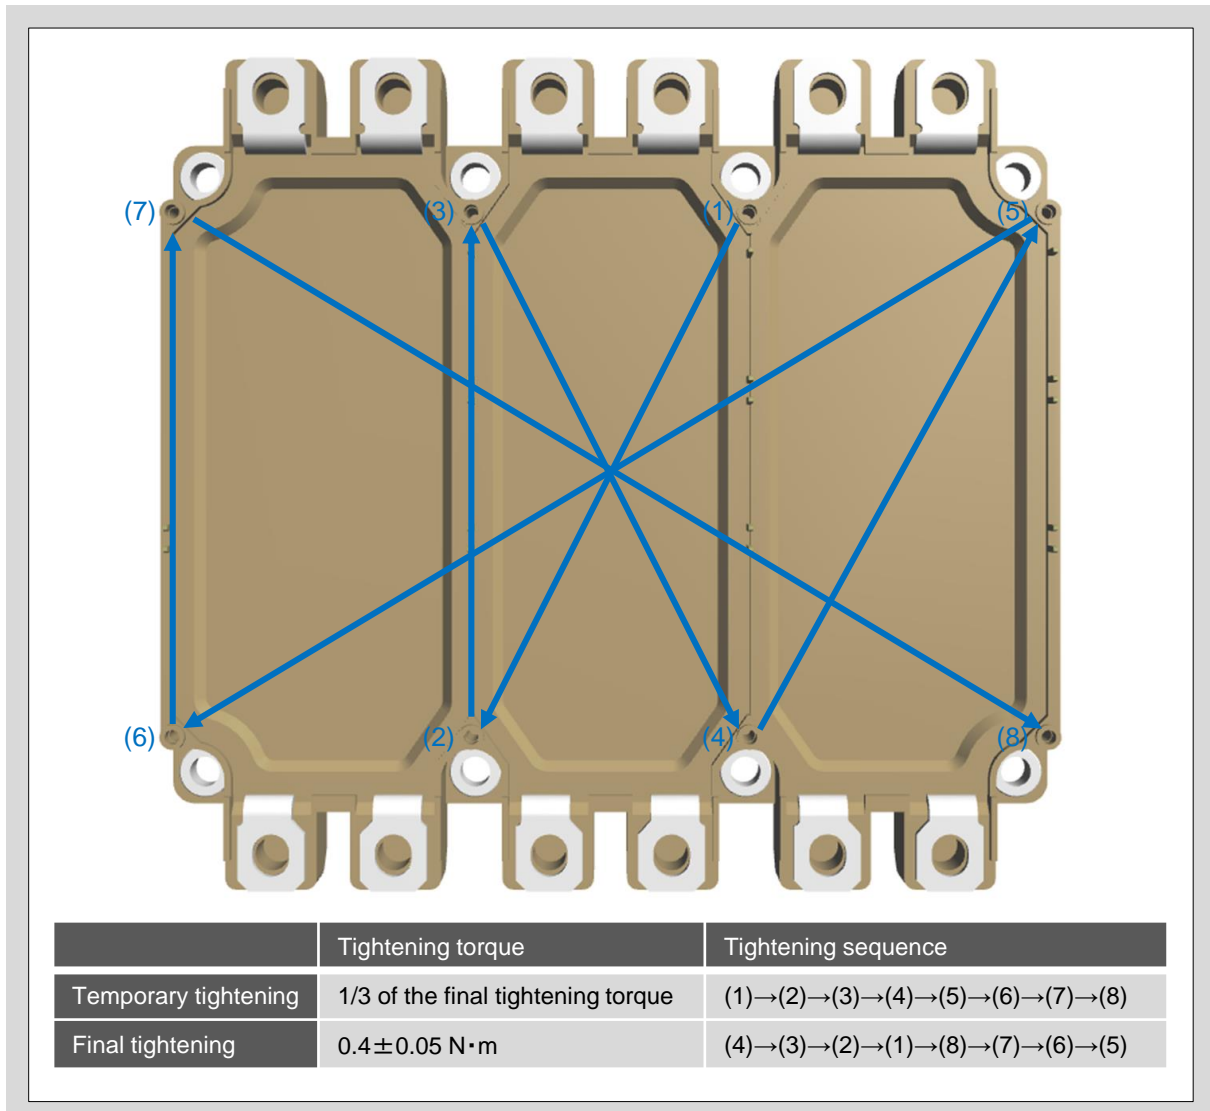

Figure 6. Tightening torque and tightening sequence
2. To fix the PCB with even force, first perform temporary tightening with 1/3 of the final tightening torque. Figure 6 shows the tightening sequence.